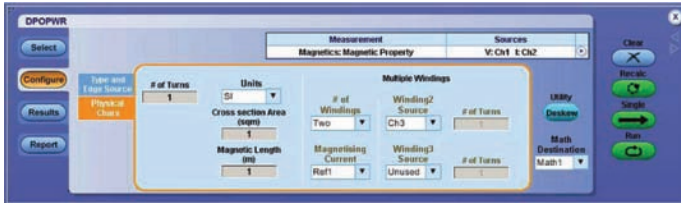

Figure 6. DPOPWR configure tab for B-H Plots.
The number of turns of the inductor (N), the magnetic length (l) and the cross-sectional area of the core (A_e) must first be entered as shown in Figure 6, before the power analysis software can compute a B-H plot.